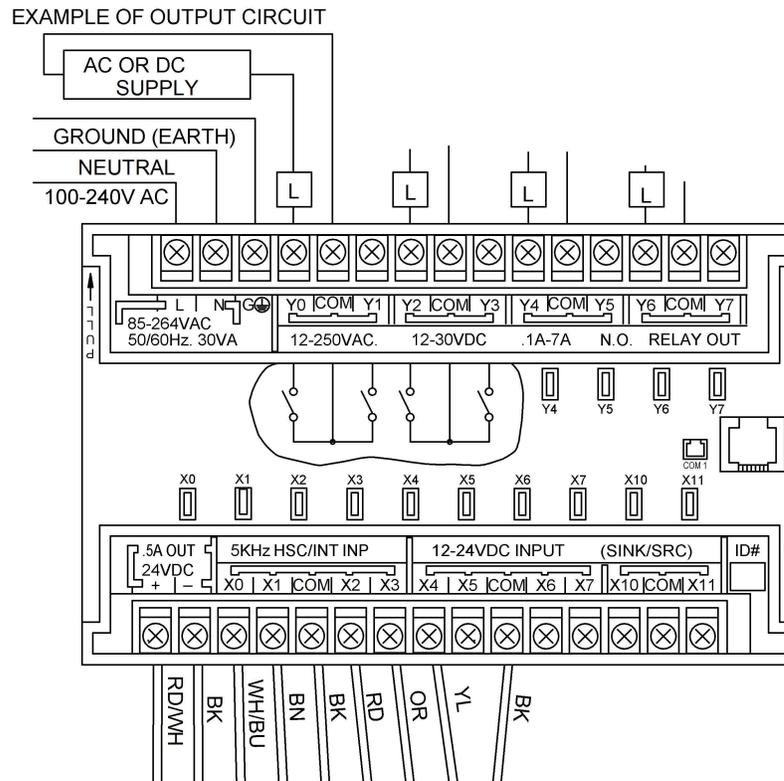

Figure 2.1
2.3.1 Power Input: 100 VAC to 240 VAC, 50/60Hz must be wired as shown in Figure 2.1.
2.3.3 Signal(s) Out: The output signals consist of four sets of relay contacts at the output of the PLC (Y0-COM-Y1, Y2-COM-Y3, Y4-COM-Y5 and Y6-COM-Y7) respectively (Figure 2.1). Each channel offers a normally closed and a normally open relay contact. For example, when Y0, Y2, Y4 and Y6 are turned on then Y1, Y3, Y5 and Y7 are turned off respectively.
- 3.2 Refer to Figure 2.1 for connections to external loads.